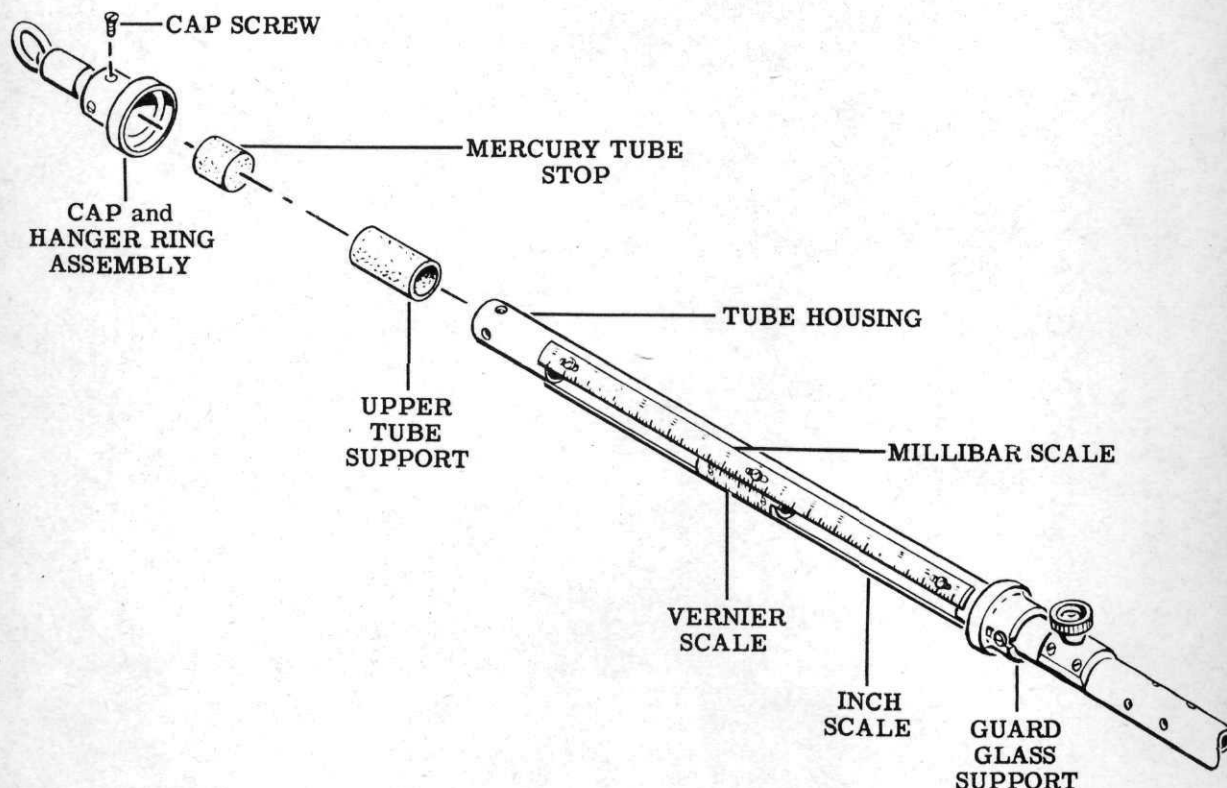

Figure 60
81. Place the barometer assembly on the floor stand, Tool No. 17. See the "Special Service Tool List" in Section VIII for details of this special tool. Apply a thin coating of orange shellac to the inside surface of the tube housing to a depth of approximately one inch. See "Sealing Compounds" in the index of the Control Manual. Slide the upper tube support into the housing and over the mercury tube. The support should be so positioned as to be level with the top of the mercury tube. See the exploded view, Fig. 60.
82. Place the mercury tube stop in the top of the tube housing. This cork, if replaced, may be too long. If so, cut material from the end of the stop so that it protrudes not more than 1/16 inch out of the tube housing. See the exploded view, Fig. 60.
83. Assemble the cap and hanger ring assembly to the tube housing with the four cap screws. Hang the barometer assembly up on a suitable supporting hook. See the exploded view, Fig. 60.